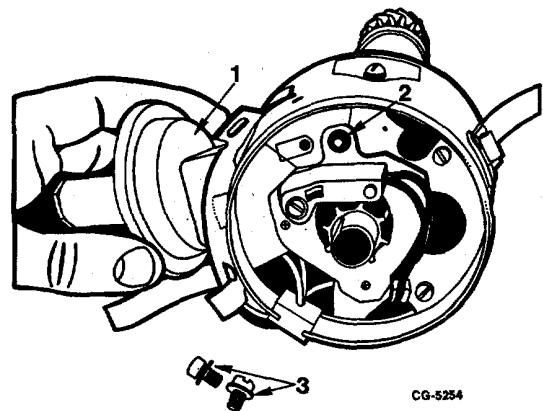

Fig. 13. Removing Vacuum Advance Diaphragm Assembly.
3. Remove vacuum advance diaphragm mounting screws and remove diaphragm assembly from distributor housing (Figure 13). Remove felt washer from diaphragm rod pin on sensor advance plate. (Figure 13).